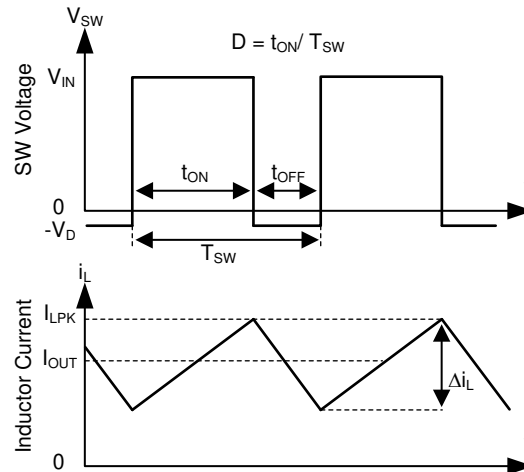

图 10-1. SW Node and Inductor Current Waveforms in Continuous Conduction Mode (CCM)
The following operating description of the TPS2583x-Q1 will refer to the and the waveforms in Figure 10-1. TPS2583x-Q1 is a step-down synchronous buck regulator with integrated high-side (HS) and low-side (LS) switches (synchronous rectifier). The TPS2583x-Q1 supplies a regulated output voltage by turning on the HS and LS NMOS switches with controlled duty cycle. During high-side switch ON time, the SW pin voltage swings up to approximately V_{IN} , and the inductor current i_L increase with linear slope $(V_{IN} - V_{OUT}) / L$. When the HS switch is turned off by the control logic, the LS switch is turned on after an anti-shoot-through dead time. Inductor current discharges through the LS switch with a slope of $-V_{OUT} / L$. The control parameter of a buck converter is defined as Duty Cycle $D = t_{ON} / T_{SW}$, where t_{ON} is the high-side switch ON time and T_{SW} is the switching period. The regulator control loop maintains a constant output voltage by adjusting the duty cycle D . In an ideal buck converter, where losses are ignored, D is proportional to the output voltage and inversely proportional to the input voltage: $D = V_{OUT} / V_{IN}$.